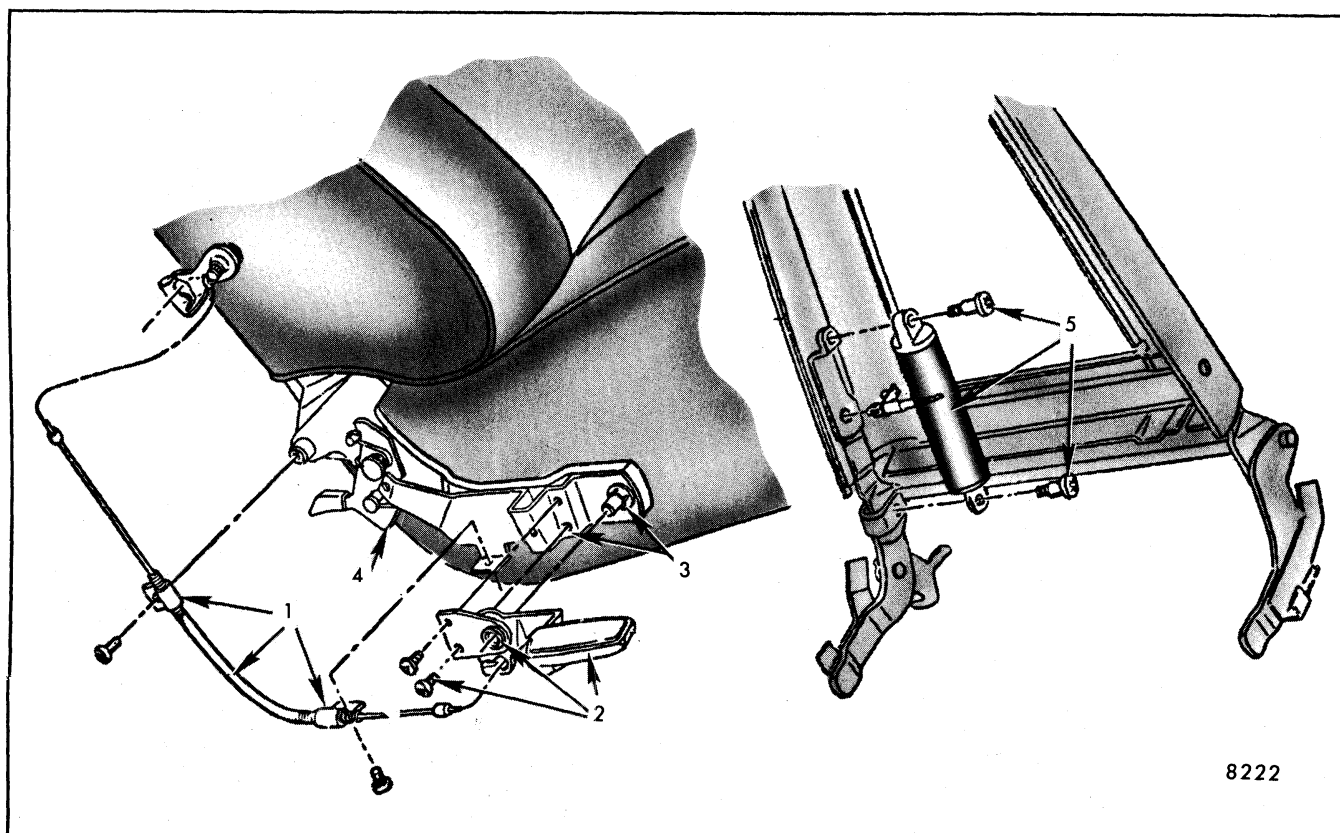

Fig. 9-51-Custom Bucket Seat Back Reclining Actuator Assembly and Remote Control - Passenger Seat
3. Remove reclining control handle and cable attaching screws (Fig. 9-51) and detach handle from hinge pin.
4. Remove seat back hinge arm retainer (Fig. 9-51) on both sides of seat.
1. To remove reclining actuator control handle, remove seat back upper and lower panels (Fig. 9-50). Remove reclining control handle attaching screws (Fig. 9-51), disengage handle from control cable and remove handle.
2. To remove remote control cable, remove seat back upper and lower panels (Fig. 9-50); then remove cable upper support screw and disengage remote cable from reclining actuator arm (Fig. 9-51). Remove remote cable lower support, disengage cable from control handle (Fig. 9-51) and remove cable from seat.